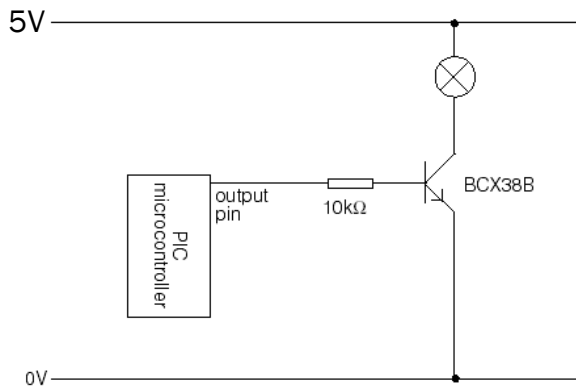

Fig 4.5 Connection of a signal lamp
**B1.** Figs 4.5 and 4.6 show how a BCX38B Darlington driver is used to connect a signal lamp and a buzzer to a PIC microcontroller.